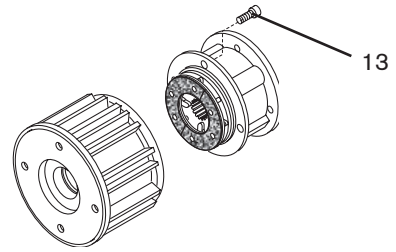

FIGURE 12
1. Remove the four Socket Head Cap Screws (Item 13) and separate the two halves of the FMCBE (See Figure 12).
15. Apply a drop of Loctite® 242 to the threads of the four Socket Head Cap Screws (Item 13) and secure the two halves of the FMCBE together (See Figure 12).
16. Tighten the four Socket Head Cap Screws (Item 13) to the recommended torque (See Figure 12 and Table 3).